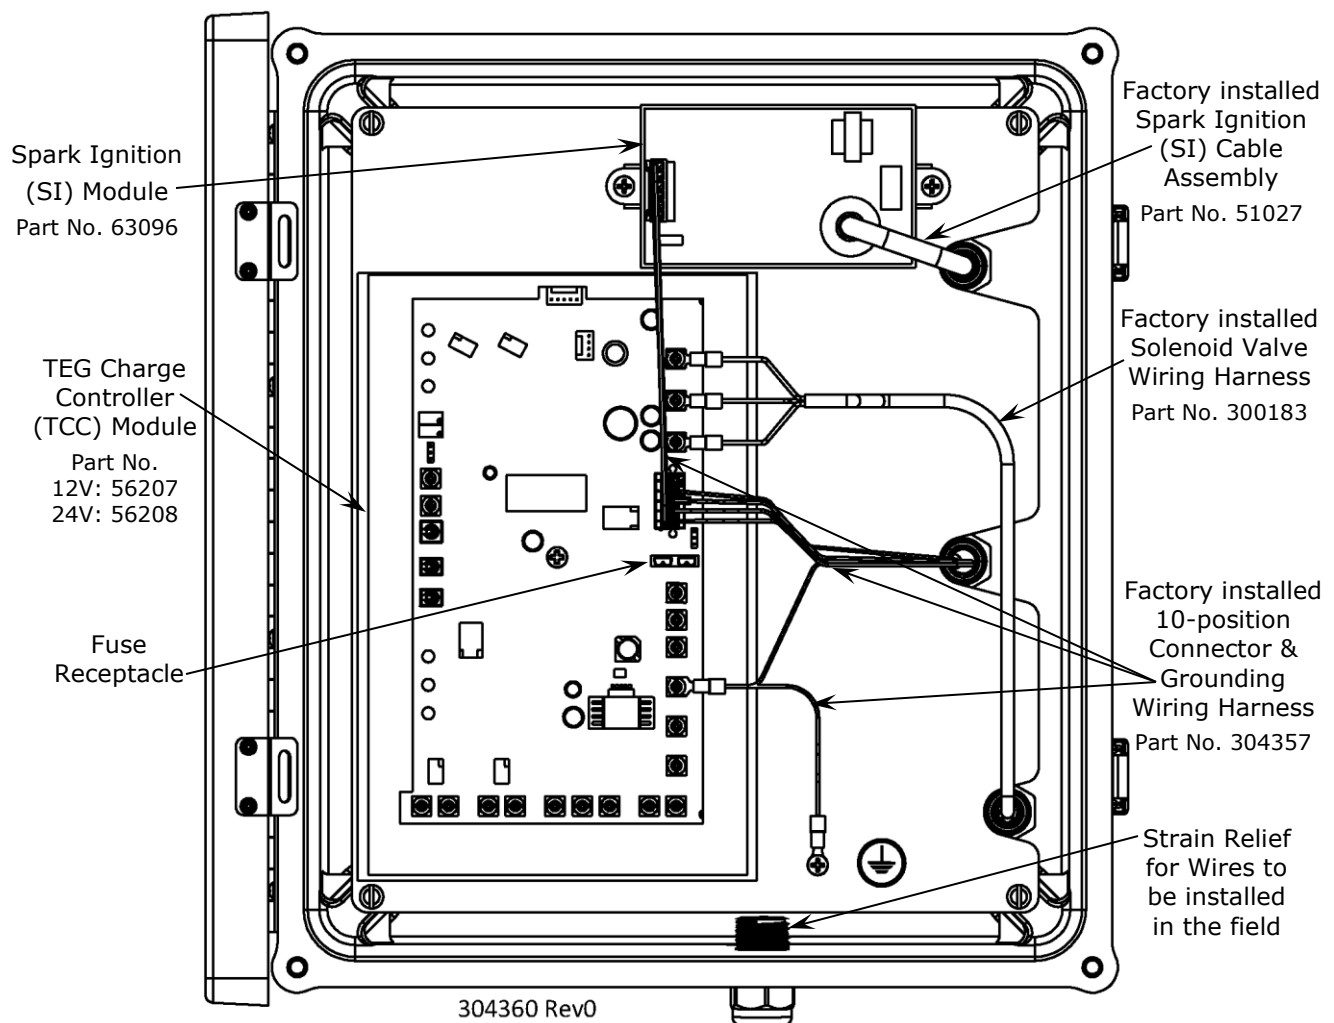

Figure 39 - Remote Start Electronics Enclosure
- Addition of a remote start electronics enclosure, as shown in Figure 39.
- On applicable TEG models, the SOV is replaced with a system voltage dependent solenoid controlled by the spark ignition (SI) module within the remote start electronics enclosure.
The Remote Start box and below listed wiring harnesses, shown in Figure 39, are all factory installed. Either a 12V or 24V Remote Start box is mounted on the left side of the cabinet (on the opposite side of the limiter or L/C electronics box).